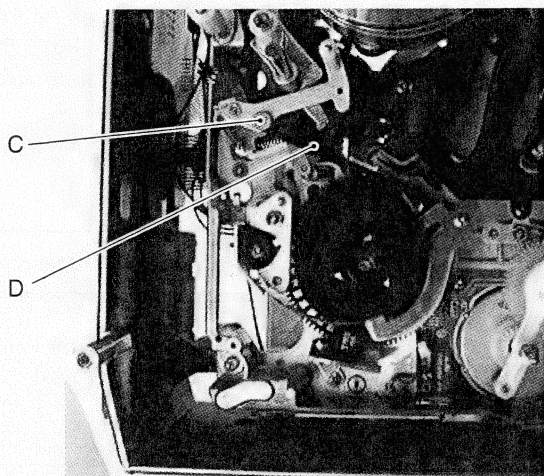

Fig. 2-6-14
4. Remove slit washer C and the screw 1, then remove the supply tension band assembly D (See Fig. 2-6-14).